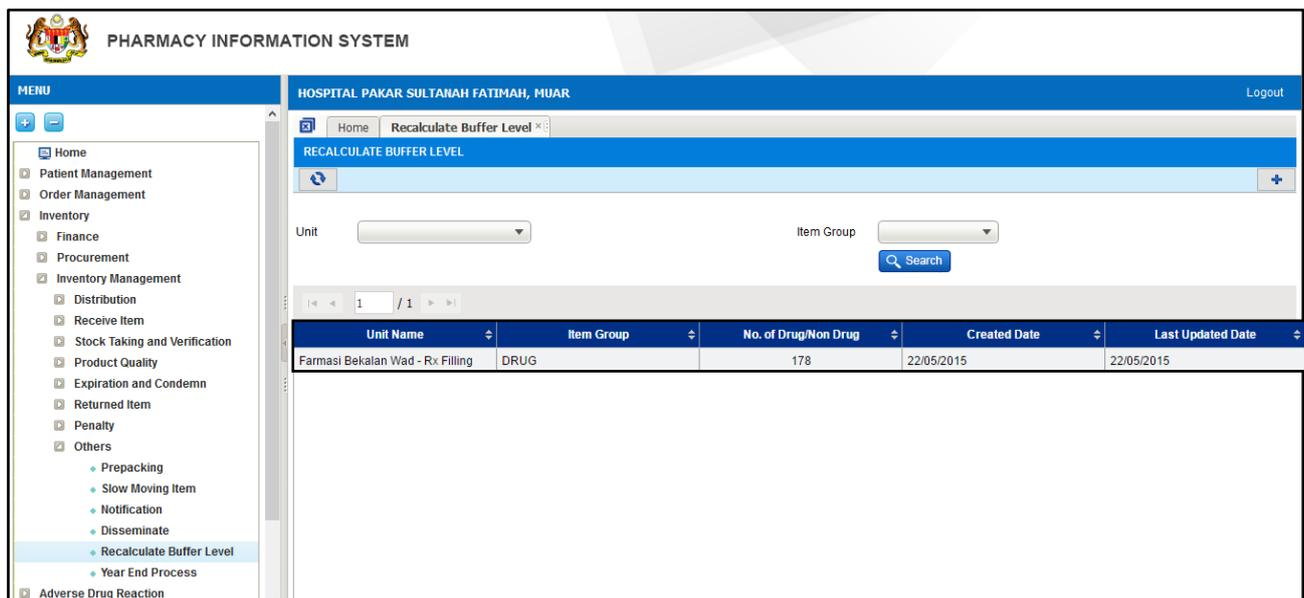

Figure 3.1-5 Recalculate Buffer Level Listing Page
- Information record will be displayed as shown in Figure 3.1-5.